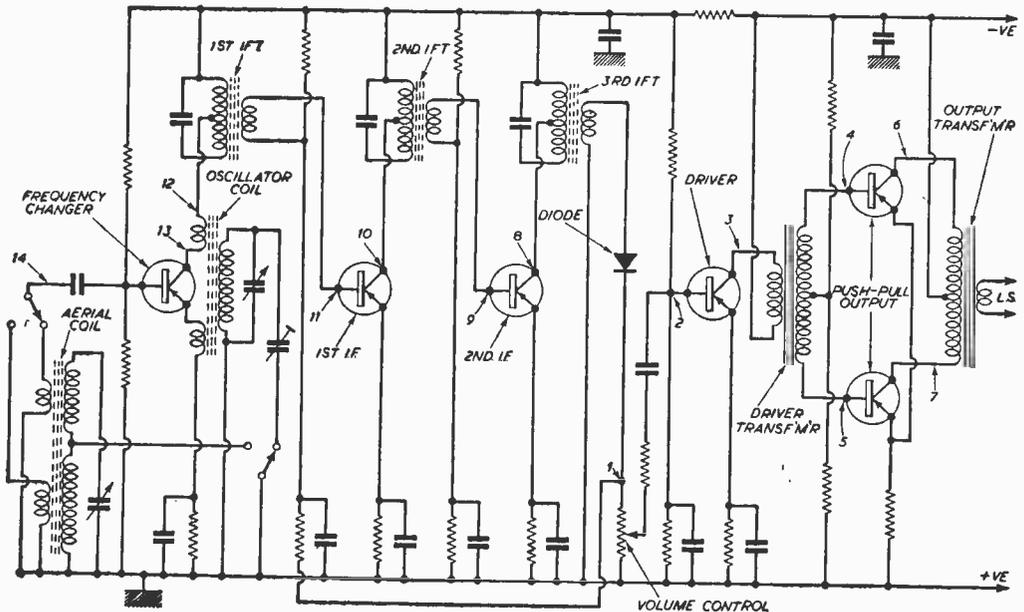

Fig. 1.—A typical transistor circuit with test points.
If headphones are available, they can be used to trace the audio signal. A 0.1µF or similar condenser should be included in one phone lead. Referring to Fig 1, the phones may be connected from (1) to chassis or earth line. If reception is good, the first three stages are working. Transfer one phone lead from (1) to (2). If reception ceases, the volume control or resistor and condenser between (1) and (2) are suspect. Remove the lead to (3). Signals should be considerably louder. If not, the driver transistor or associated connections and parts are defective. Try the lead on (4) and (5). If there is no signal at either point that half of the driver transformer, or connections to it, should be tested. If the signal is still available at (4) and (5), check at (6) and (7). A further amplified signal should be heard. If not suspect the associated transistor.